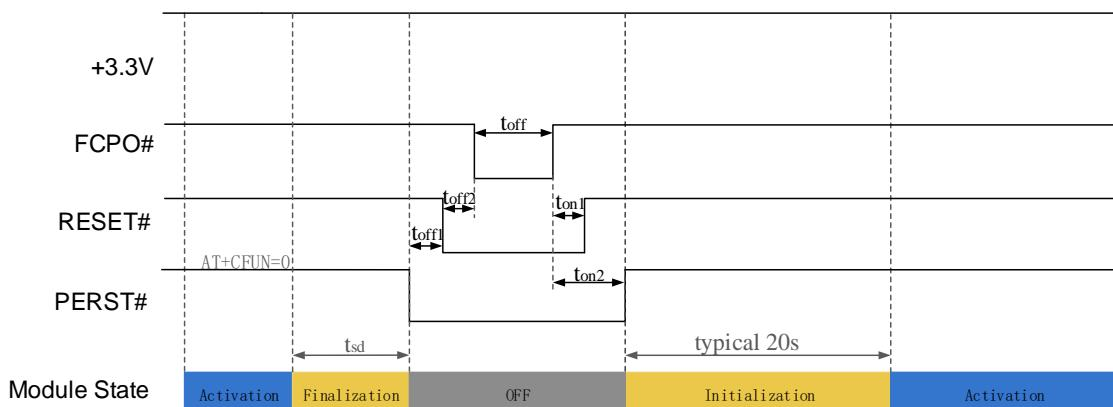

Figure 3-9 Reset control timing 2nd
- Reset timing 2nd in Figure 3-9, PMU of module internal will be off in reset sequence (including whole power off and power on sequence, t_{sd} can refer section 3.3.2), recommend using in system warm boot.